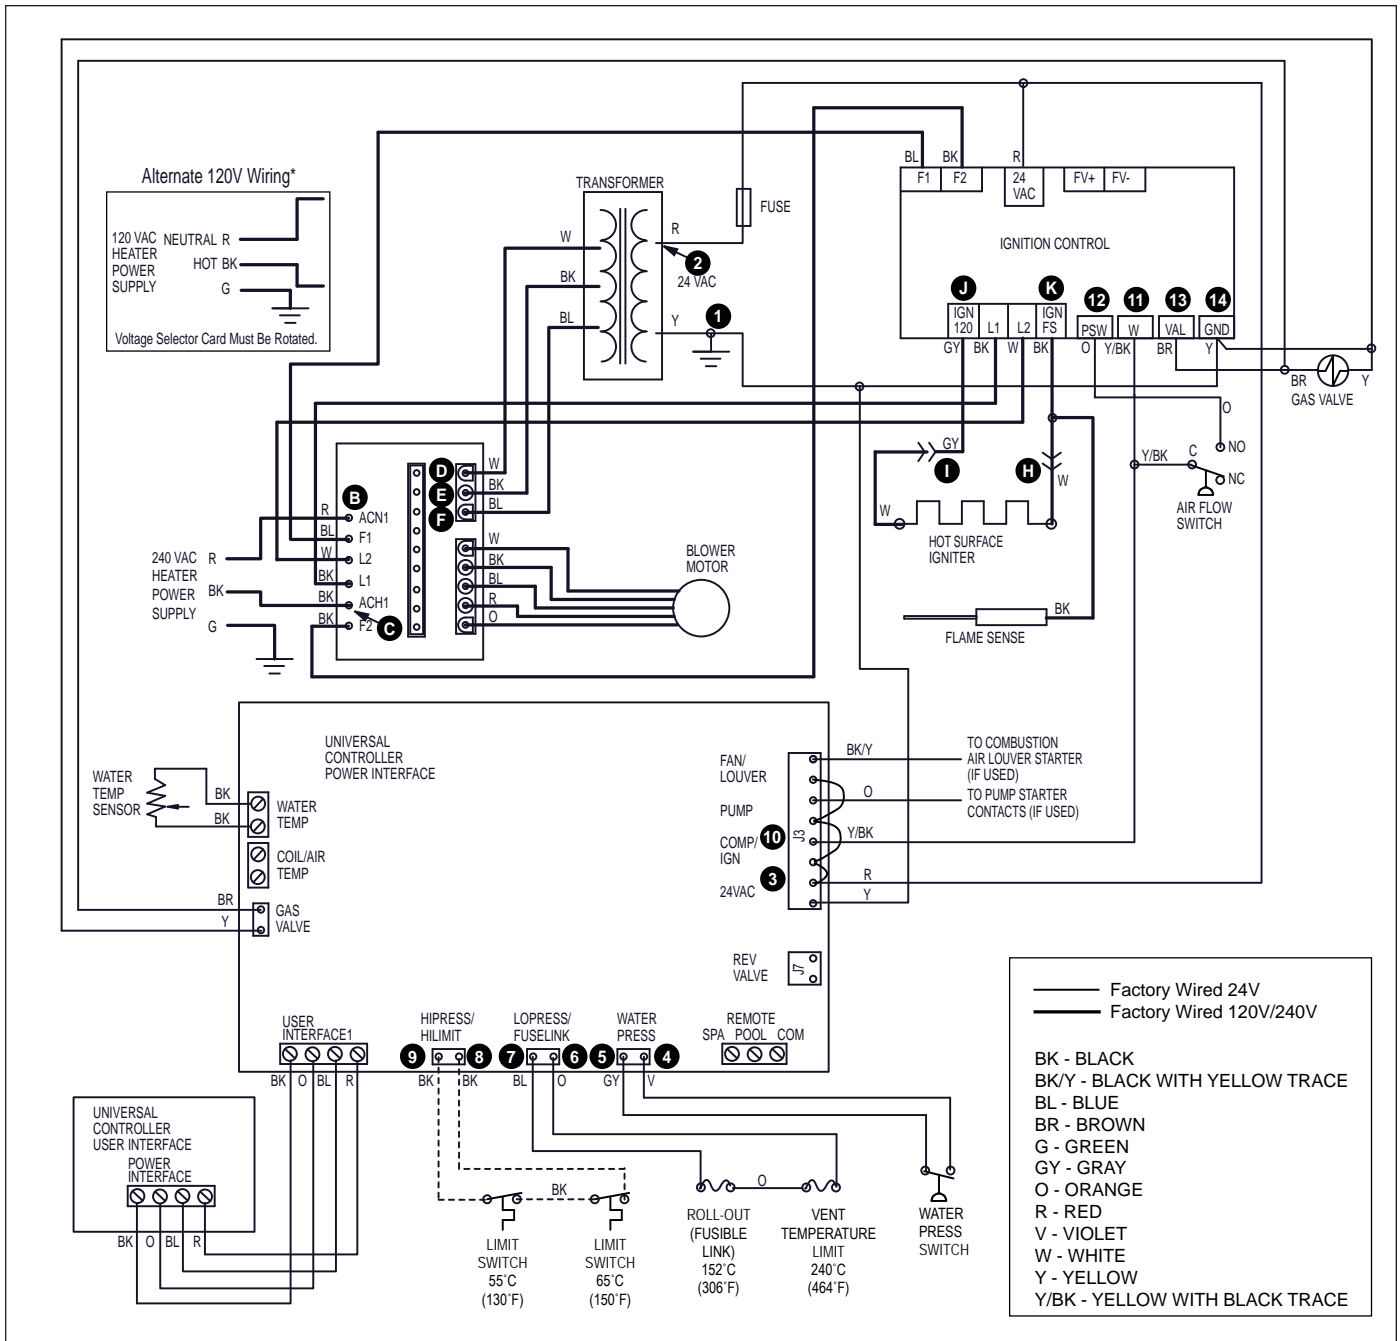

Figure 41. Test Point Identification Diagram
These procedures require a Volt-Ohm meter with a minimum 0-250VAC voltage range, and 1-1000 Ohm resistance range. Figure 41 shows the power and control circuits and where to take measurements. Location numbers in circles have been added, and will be referenced in the following sections.
The electrical components of the LXi pool heaters are designed to operate with supply voltage ranging from 102V to 132V at 60 Hz if connected to a nominal 120 Volt power supply, or 204V to 264V at 60 Hz if connected to a nominal 240 Volt power supply. Measure supply voltage at the power supply leads where they enter the heater (identified as points A, B and C on the wiring diagram in Figure 41). Use the voltages in Table 13 to verify that the correct voltage is supplied to the heater.
This can be done by measuring the voltage between the wires of the three-pin connector on the power supply circuit board. These points are designated as test points D, E, and F on Figure 41. The voltages measured between any two (2) of these three (3) points will be determined by the voltage supplied to the transformer. See Table 14 for expected voltages.
Troubleshooting is done by probing for voltage between the common and various points in the circuit to determine which component is preventing operation. Check points are indicated on Figure 41. The black lead of the meter should be attached to the common tap on the secondary side of the transformer and may be left there throughout most of the procedure.
Figure 41. Touch the free lead of the voltmeter to the terminal on the secondary side of the transformer with a red wire attached to it (24V tap), test point 2. The voltmeter should read between 20-28 Volts AC.
Start by checking the voltage at the two (2) legs of this circuit on the controller, see test points 4 and 5 in Figure 41. Check the voltage at test point 4, where the violet wire from the pressure switch enters the two-pin connector on the controller.
To check the fusible link/air louver/field interlock circuit, place the red lead at test point 6, see Figure 41. If 20-28 Volts AC nominal is not measured at this point, either the controller or the two-pin wire harness is faulty, or the water pressure switch is open.
Since the limit switches are not easily accessible, the voltage can be checked at the two (2) legs of the circuit at the controller. See test points 8 and 9 in Figure 41.